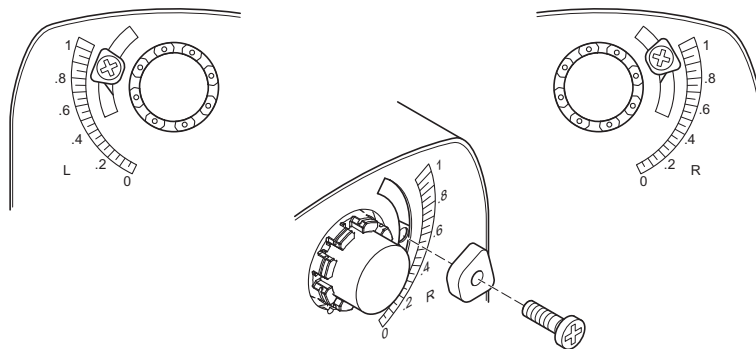

Figure-11 Adjusting Stop Block for Limited Rotation.
3. Slide the stop block into position, so that its edge lines up with the degree graduation on the actuator face which corresponds with the required rotation. See (Figure-11).